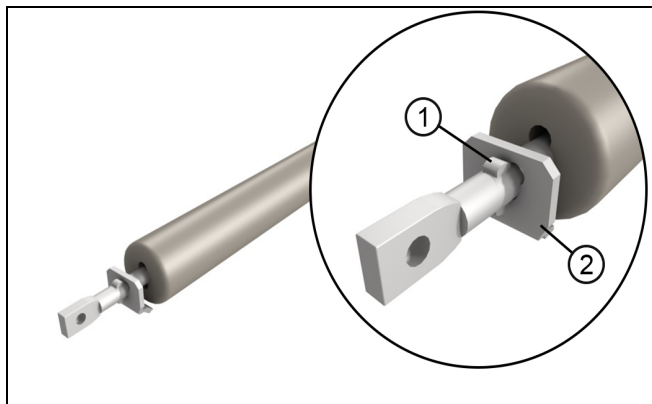

Figure 16
3. Place the hold open washer on the closer rod and position it over the lugs. This will give you proper tension for installation. See Figure 16.